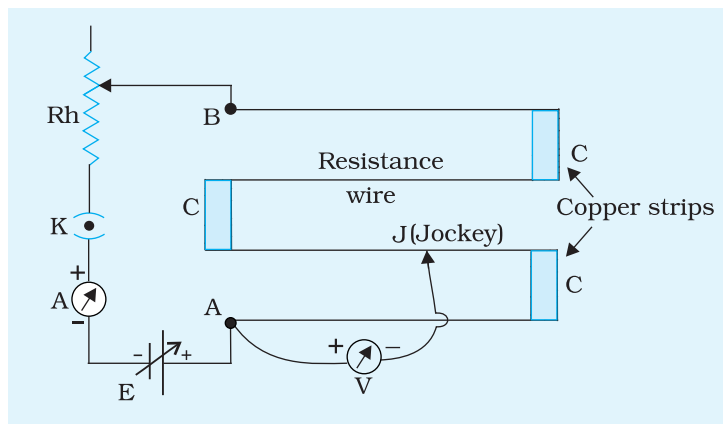

Fig. A 6.1 Circuit to study variation in potential drop
1. Set up the electrical circuit as shown in Fig. A 6.1.